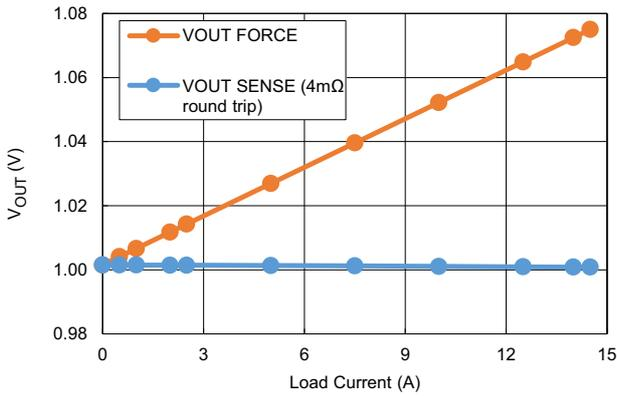

Figure 19. V_{OUT} Force and Sense using Integrated $2m\Omega$ Resistors
5. Enable, disable, and modulate the DC load to observe the POL converter compensating for the trace impedance. This includes 4mΩ of onboard chip resistors and parasitic resistance of the evaluation PCB. Observations should be similar to Figure 19.